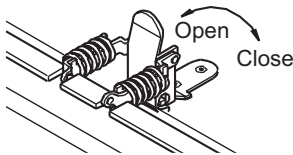

Figure 17 - Spring Latches
- Undo latches located on top and bottom of firebox (see Figure 17). Carefully swing door to the left. The glass door is securely mounted to the firebox with 5 screws.